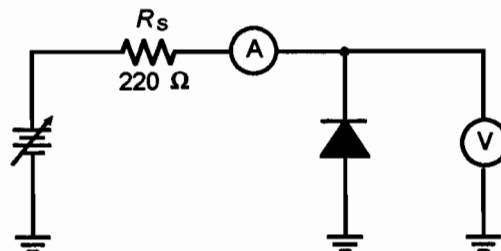

Figure 5.2
3. Construct the circuit of Figure 5.2. Starting with the power supply set to zero volts, slowly increase the DC voltage to obtain the required current values of Table 5.1. At each current value, record the forward voltage ( $V_D$ ) drop of the diode.